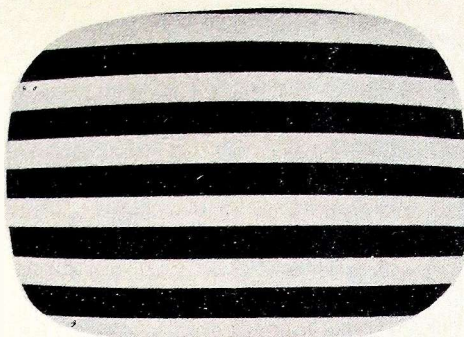

Fig. 1. Pattern produced by signal generator with 400-cycle modulation.
Coupling in the filament stage occurs through the small but still significant capacitance between the cathode and filament of a tube (see Fig. 1). For instance the twin triode, the 12AT7, has a filament-to-cathode capacitance (for each unit) of 2.5  $\mu\text{f}$ . This might be thought small, but at the frequencies used in a television receiver, it becomes important. At a frequency of 80 mc the reactance of this 2.5- $\mu\text{f}$  capacitance is equal to
Fig. 1.—(A) shows a simplified tube circuit showing the filament-to-cathode capacitance. (B) is the equivalent r-f circuit showing the low filament-to-cathode reactance used for coupling the filament and cathode circuits of a tube.
The vertical linearity and height controls can be checked and adjusted by setting the channel selector to some channel not used in your area. This should probably be one of the lower channels since most of the older signal generators do not cover the high tv channel frequencies. The r-f output cable of the signal generator should be connected to the antenna terminals of the receiver. The output of the signal generator must be modulated since it is the frequency of the modulation which is visible on the picture tube screen. Most signal generators have provision for 400-cycle modulation which produces a bar pattern similar to that shown in Fig. 1.
The output of some signal generators such as the General Electric YGS-3 can be modulated by a 60-cycle or 400-cycle fixed frequency, or by any frequency within the variable frequency range of 100 to 12,000 cycles. The 60-cycle modulation produces a pattern consisting of two horizontal bars as shown in Fig. 2. The positive half of the sine wave produces the bright bar, while the negative half produces the black bar. The 400-cycle modulation produces six bright bars and five dark bars as shown in Fig. 1. The number of black and white bars will vary depending on the frequency of the